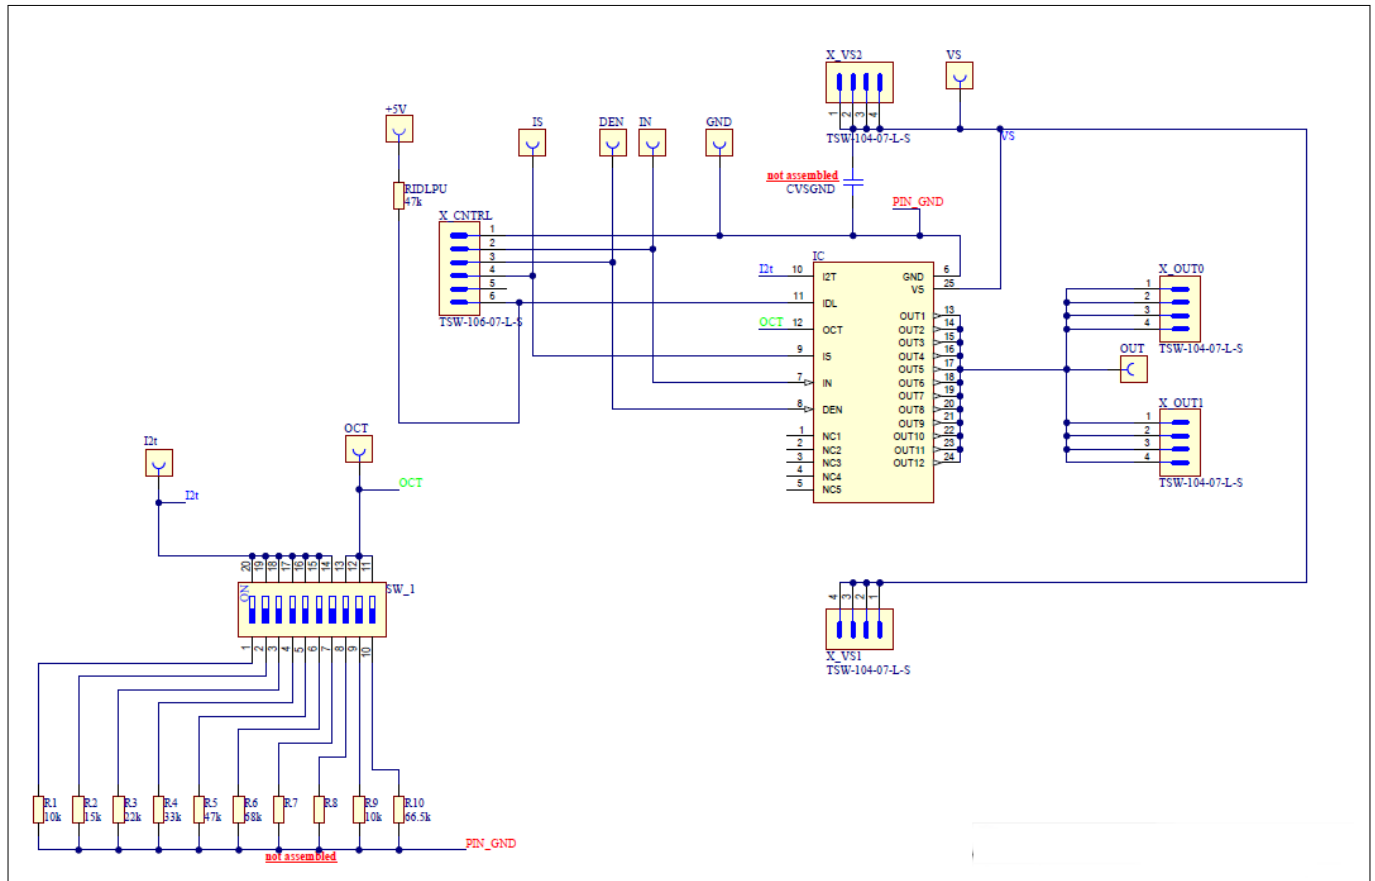

Figure 22 PROFET™ Wire Guard 12V daughterboard
- Pin 10 (I2t) and pin 12 (OCT) is connected to the dip switch with different resistor values (see Figure 22)
- Between the VS pin and the GND pin of the DB is an additional footprint for an 100 nF capacitor (for more information see Figure 22)